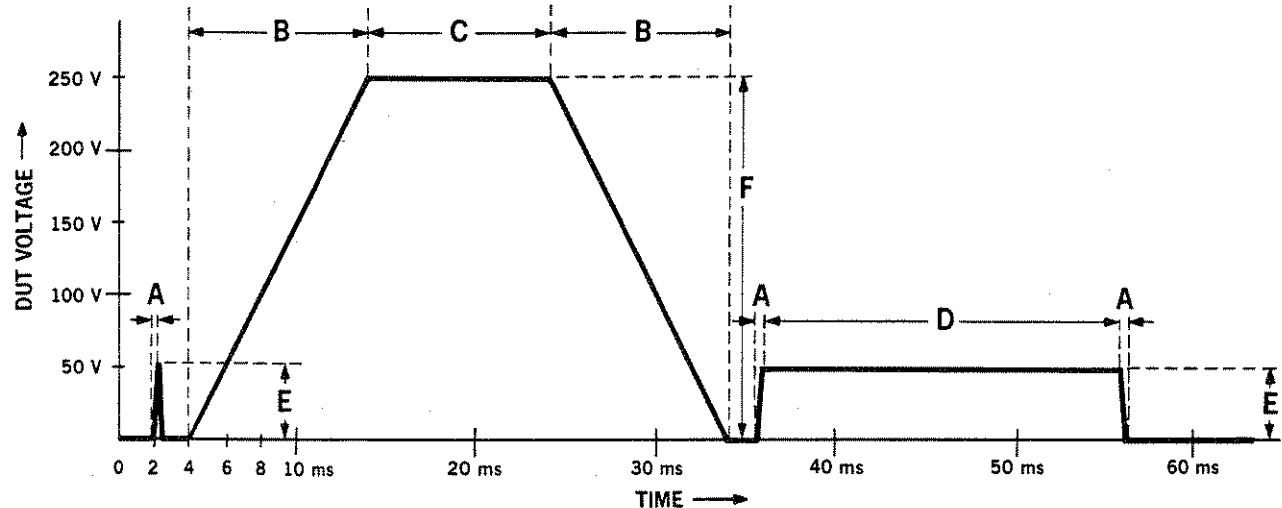

Figure 5-2. Test Waveform with 2.5 mA Charge Rate
STEP 7. Initiate a test and observe the waveform on the oscilloscope. The waveform should appear as shown in Figure 5-2. All of the dimensions labeled in the waveform should be within the ranges specified in Table 5-3. For information about initiating a test, refer to TEST CABLE ASSEMBLY, Section 7.4, (Handler Interface) Control Inputs, Section 3.6.2.2, or COMMUNICATION INTERFACES, Section 3.7.
STEP 10. If it is desired to check the waveform at any other Charge Rates, a similar procedure should be followed. The desired Charge Rate should be programmed and a test performed. The waveform should not change, except for the slope and the duration of the Stress charge and discharge cycles. Table 5-5 lists the proper duration for either (charge or discharge) cycle at different charge rates, labeled "B" in Figures 5-2 and 5-3.